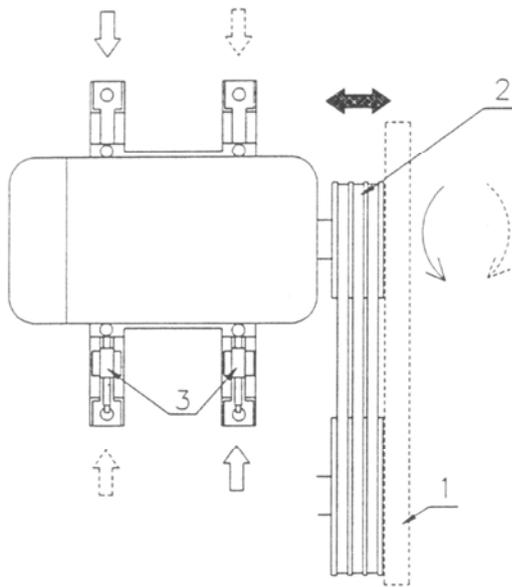

Fig. 7.9
Check afterwards if both pulleys are still aligned (see Fig. 7.9)
When the motor shaft is not parallel to the pump shaft, the motor can be rotated as shown in fig. 7.9. Loosen the motor fixing bolts and use the tensioners (3) to rotate the motor. If necessary, one of the tensioners can be placed into the rail above the motor.